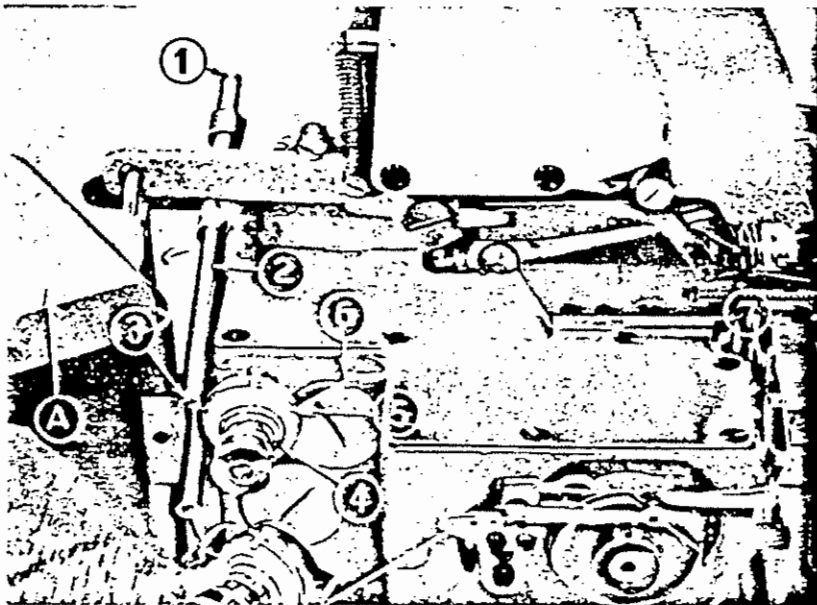
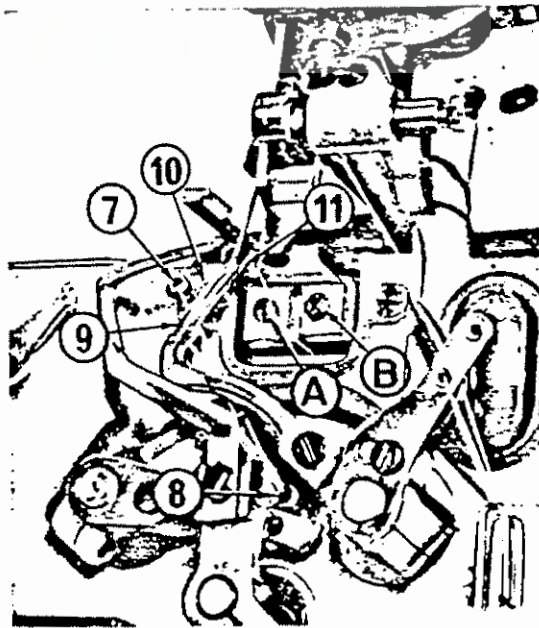

Fig. 10
Fig. 11
(Please see Fig. 10 and Fig. 11)
Open the cloth plate cover ④, Fig. 10 to your left, lower the needle bar and thread the lower looper in the order of ①—⑪, as shown in Fig. 10 and Fig. 11.
The height of the feed dog can be adjusted by loosening the set screw of feed dog ① Fig. 11 and then after adjusting, tightening it again. When you do the adjusting, be sure that the height of the main feed dog and the differential feed are exactly same. Also, be sure that the feed dog does not touch the throat plate or the looper.